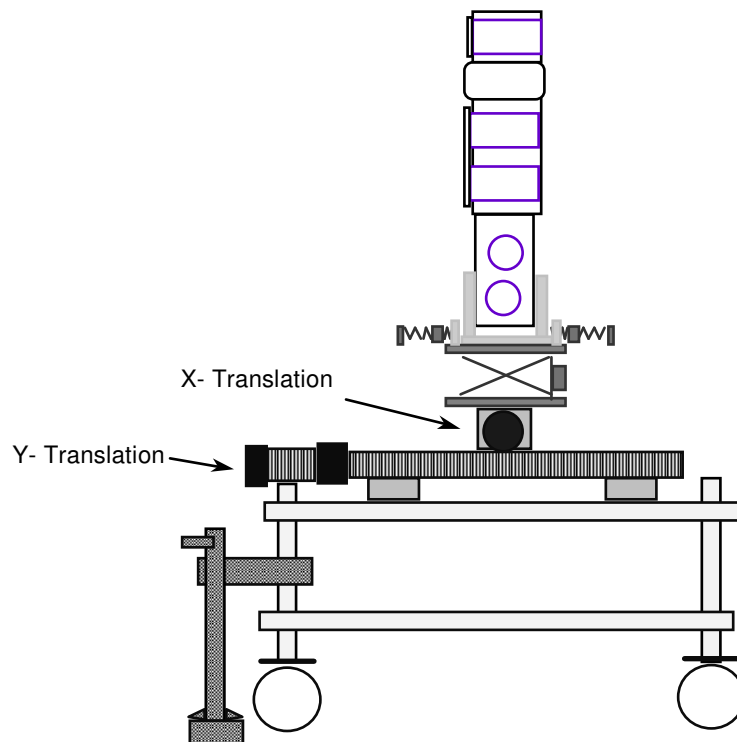

Figure 4. Quartz Block in QB/PM Cart (not to scale)
- 5.4.6 Move the QB in the QB/PM Cart behind the ion bars near the HEPA wall to the observation window side of the room. See Figure 4 for final configuration.